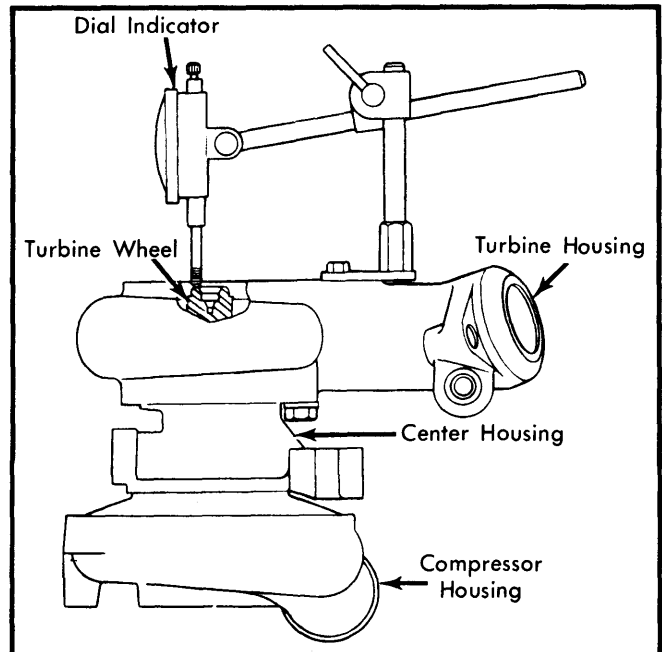

Fig. 5 Checking Axial Bearing Clearance With Dial Indicator
- 4) Attach a suitable dial indicator (4201-C) at the turbine end of the turbocharger assembly so the tip rests on the end of the turbine wheel assembly. See Fig. 5.